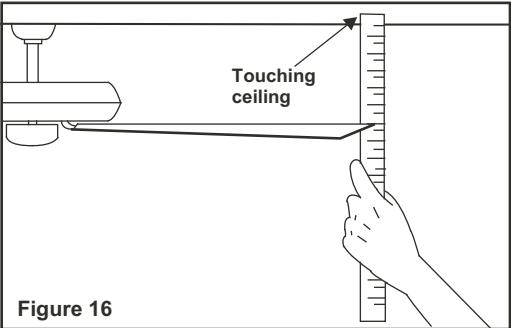

Figure 16
2. Most fan wobbling problems are caused when blade levels are unequal. Check this level by selecting a point on the ceiling above the tip of one of the blades. Measure this distance as shown in Fig. 16. Rotate the fan until the next blade is positioned for measurement. Repeat for each blade. The distance deviation should be equal within $1/8"$.